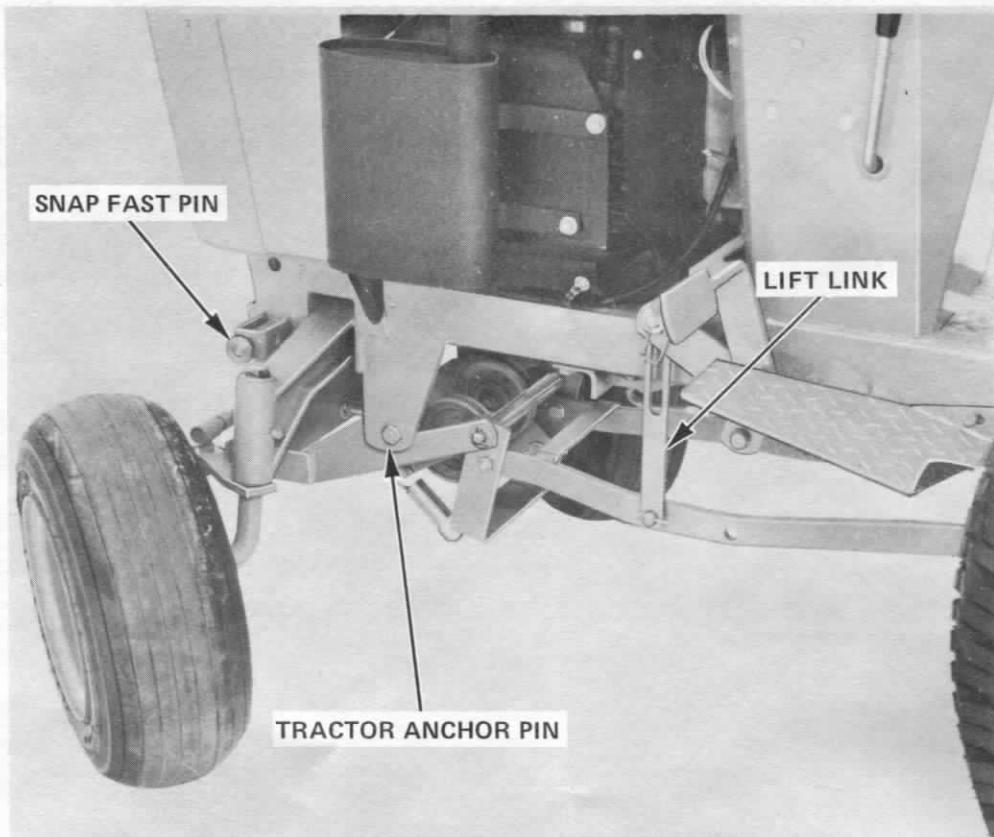

FIGURE 15 MOUNTING THE J-46 MOWER MOUNTING BRACKET
- Position the mounting bracket under the front of the tractor and onto the anchor pins as shown in Figure 15. Raise the front of the bracket and release the snap fast pins to lock in place.
- Lower the lift arms fully. Position the lift links on the inside of the lift arms. Put a plain washer on each clevis pin and install in the front hole of the lift arm from the inside. Secure the links with the safety pins at the outside. Refer to Figure 15.